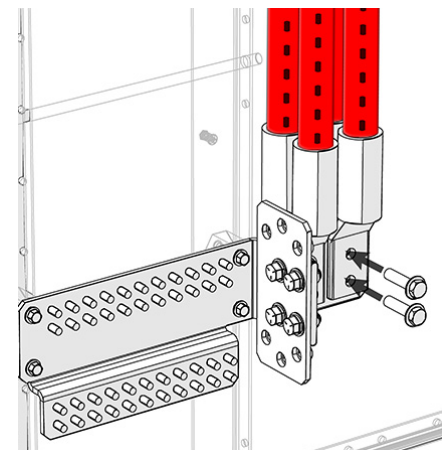

Figure 9. RTN Input Cable Termination
- Step 3. Install the return input cables/lugs to return input position 1 (see Figure 9 on Page 9).
- Step 3.** Install the return input cables/lugs to return input positions 1 and 3 (see Figure 9 on Page 9).
- Step 3.** Install the return input cables/lugs to all four return input positions (see Figure 9 on Page 9).